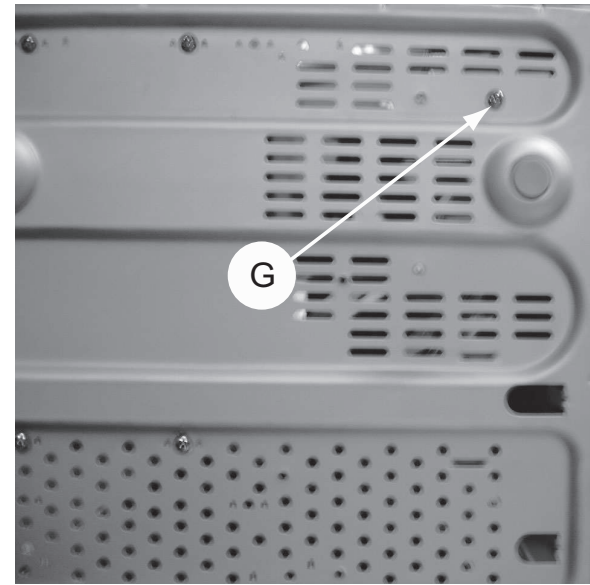

figure 9
- 2) Loosen 1 screw "G" at bottom panel as shown in figure 9